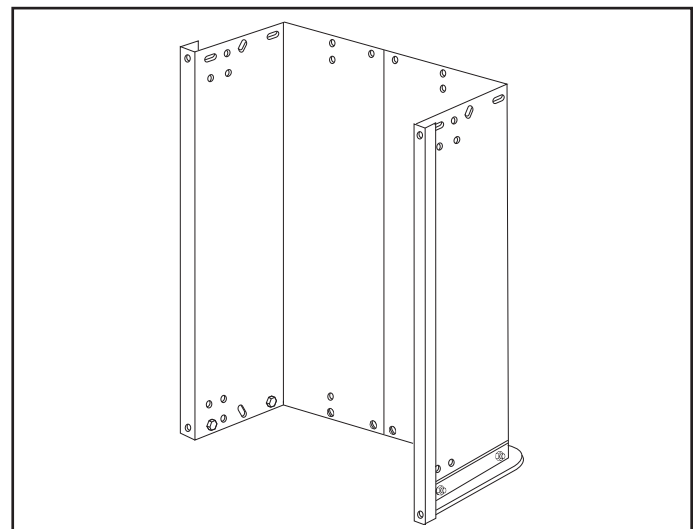

FIGURE 3
- 6. Carefully flip the cart end for end so that it rests on the tailgate reinforcement bracket. See figure 3.